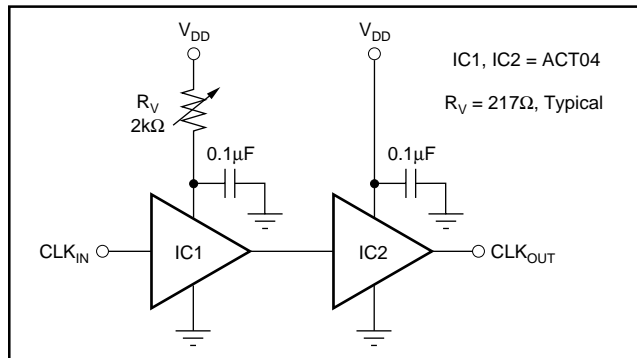

FIGURE 4. Clock Skew Circuit.
- For most applications, the clock duty should be set to 50%. For applications requiring no missing codes, however, a slight skew in the duty cycle will improve DNL performance for conversion rates > 35MHz and input frequencies < 2MHz (see Timing Diagram) in the SO package. For the best performance in the SSOP package, the clock should be skewed under all input frequencies with conversion rates > 35MHz. A possible method for skewing the 50% duty cycle source is shown in Figure 4.